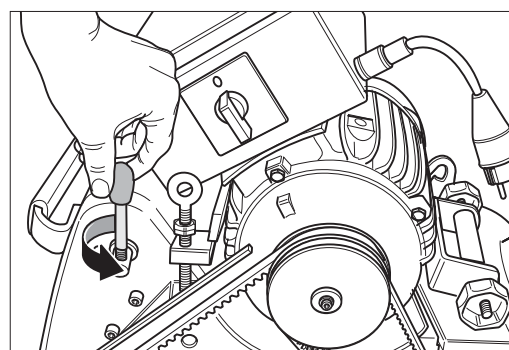

Fig. 28 Unscrew the lever.
- 7 Remove the operating lever by unscrewing (Fig. 28).